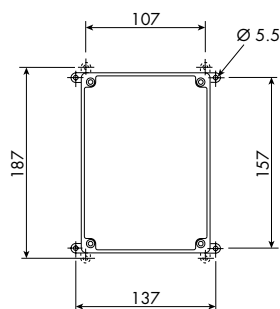

Figure 5.7: Dimensions and location of fixing holes – DX070.
See figures 5.7 to 5.9 for the dimensions and mounting hole distances, etc., of the three DX enclosures. The recommended method of mounting—described here—uses the four wall-mounting lugs supplied with each enclosure. An alternative method of mounting is by direct attachment to the mounting surface through the corner holes.
- Each lug can be used in one of two positions as shown in figures 5.7 to 5.9.
- Appropriate fixing hole distances are shown in figures 5.7 to 5.9.